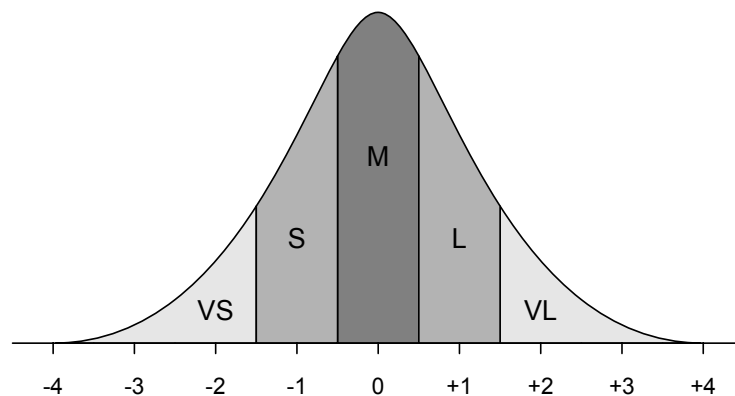

Figure 1. Ranges of standard deviations
The medium range (M) is the area from -0.5 standard deviations to +0.5 standard deviations from the mean, as shown in Figure 1. Assuming that the data approximates a normal distribution, the likely number of parts that are within plus or minus 0.5 standard deviation of the average value is 38.3 percent. Following similar logic, the range percentages area are as follows: